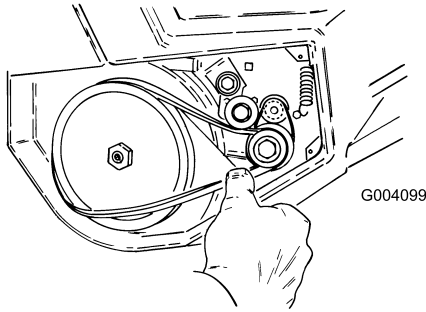

Figure 21
7. Rotate the rotor with your left hand while sliding the belt onto the large pulley with your right hand (Figure 21).